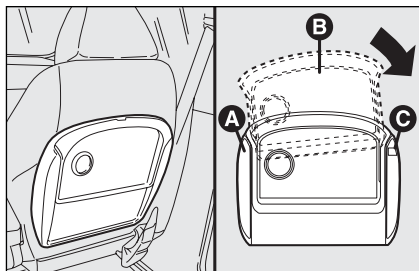

fig. 73
- fit the shelf **B**-fig. 73 so that the support fixed pin **A** is fitted inside the shelf left rail;